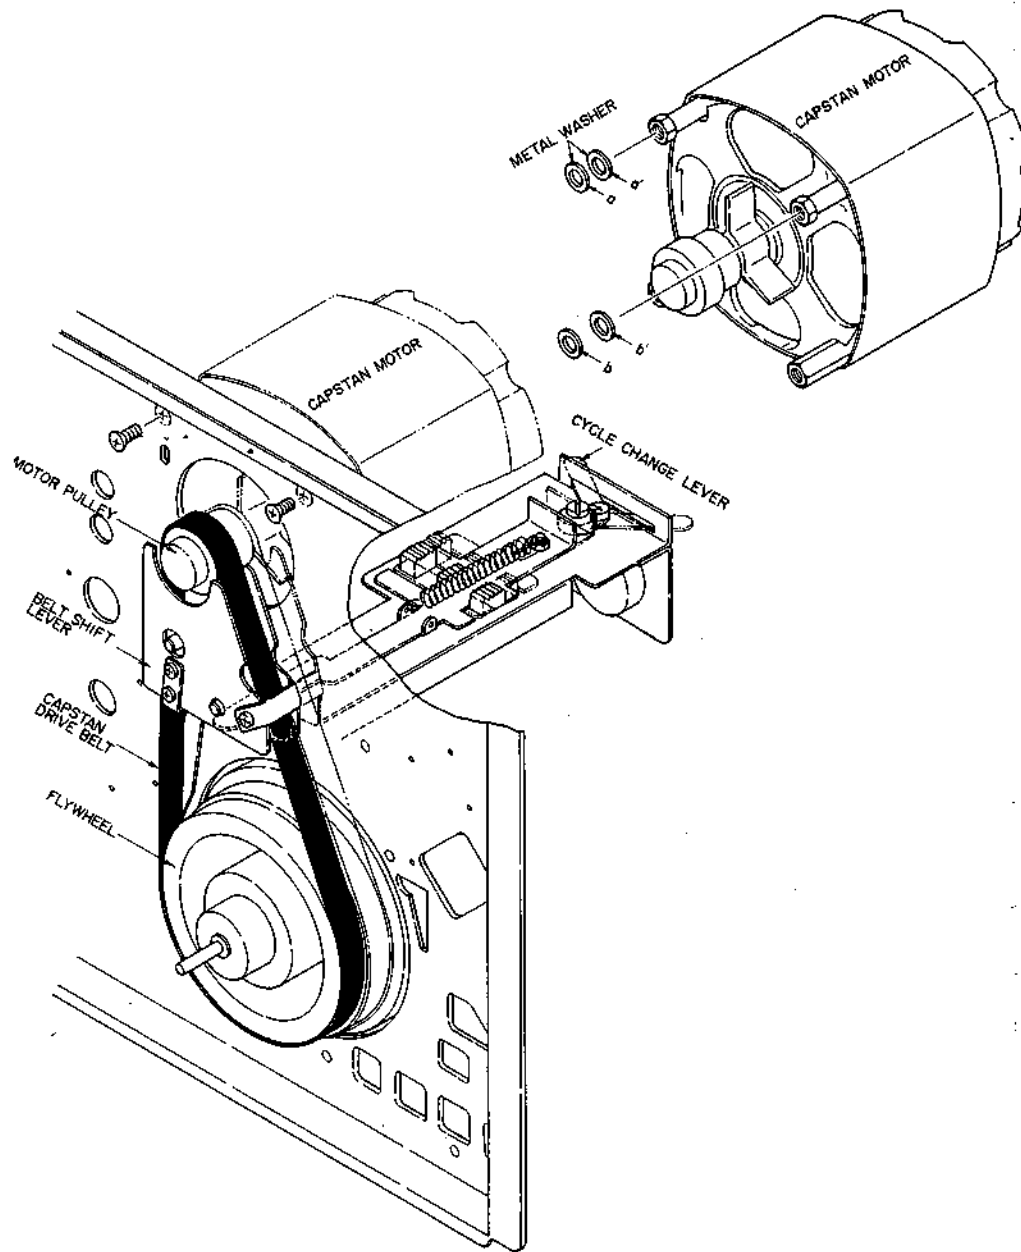

Fig. 2
- 3) Use Metal Washers on only the two upper Motor Mount Props (Fig. 2).